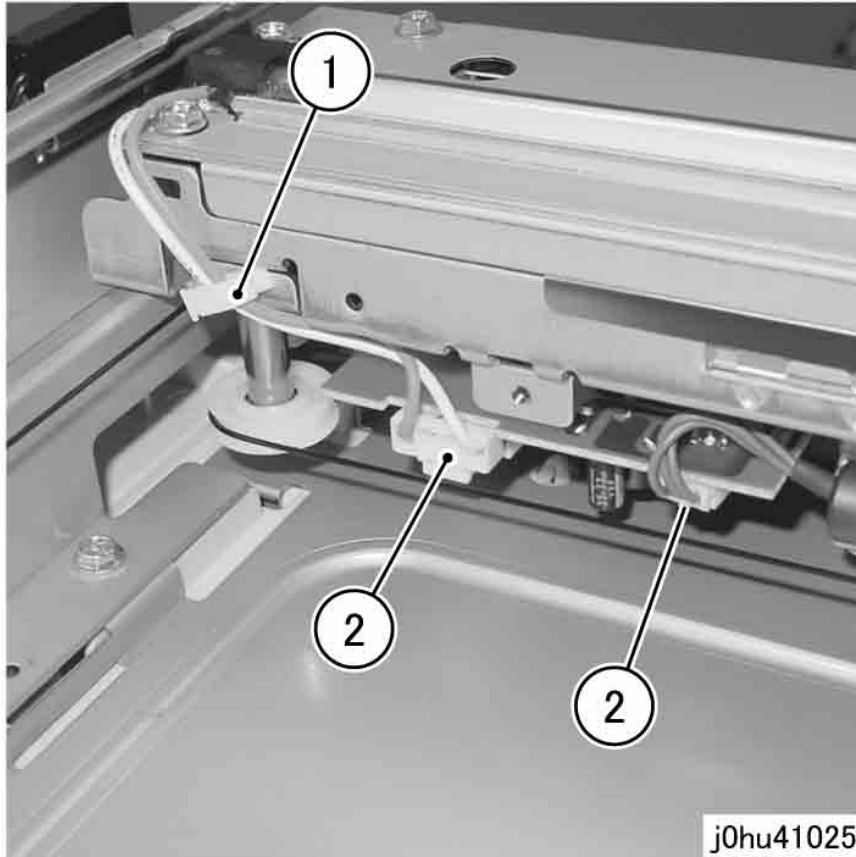

Figure 2 Remove Inverter PWB Connectors
4. Disconnect the connector (Figure 2).